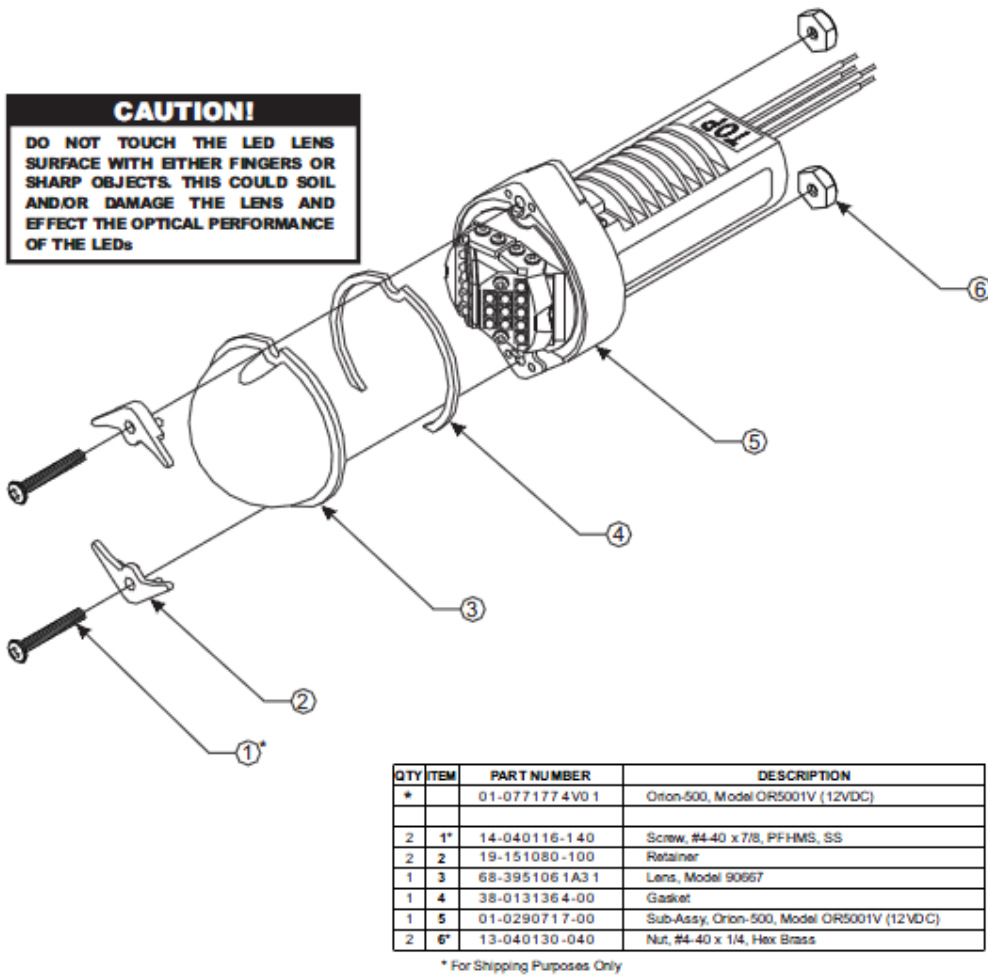

Figure 8 : Fin anti-collision and position light
- 44.3. Refer Figure 8 Install the light assembly on to the aircraft (discard the supplied nuts). Ensure that all leads are clear of any obstructions and secured as required. Note that proper orientation is achieved with the drain hole down.